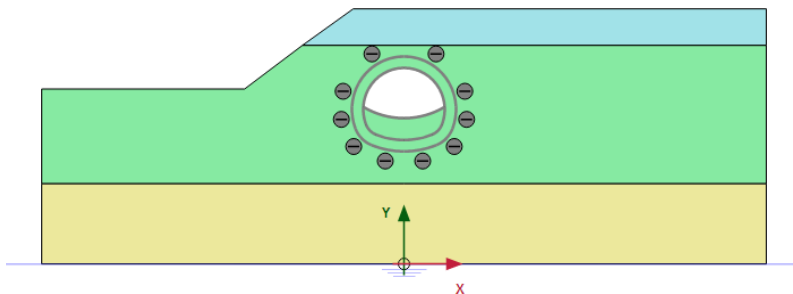

Figure 6.6 Configuration of Phase 1
- In the *Staged construction* mode deactivate the upper cluster in the tunnel. Do NOT activate the tunnel lining. The model for Phase 1 is displayed in Figure 6.6.